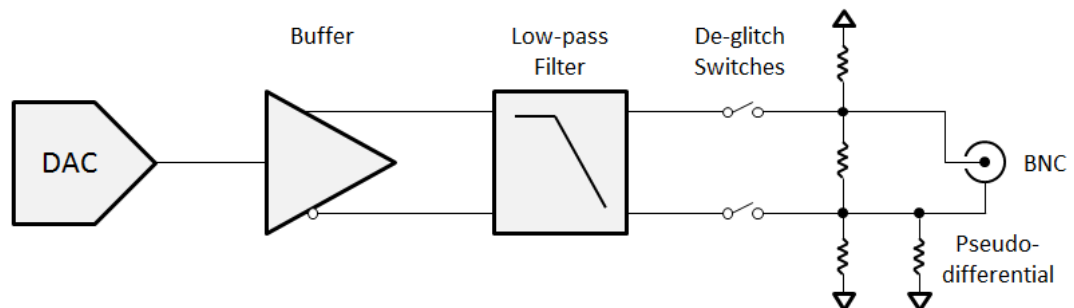

Figure 3.7 Analog Output Functional Block Diagram
The USB-5801 provides 2 channels of analog output (AO) signal measurement. Figure 3.7 shows the functional block diagram of one analog input channel.